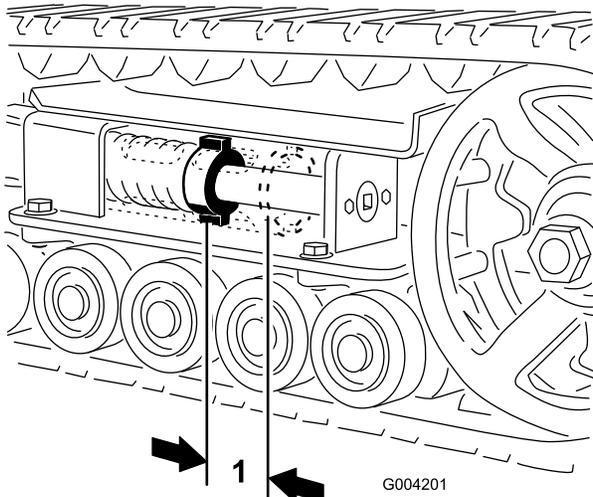

Figure 44
There should be 7 cm (2-3/4 inches) between the tension nut and the back of the tension tube (Figure 44). If not, adjust the track tension using the following procedure:
4. Using a 1/2 inch drive socket wrench, turn the tensioning screw counter-clockwise until the distance between the tension nut and the back of the tension tube (Figure 44) is 7 cm (2-3/4 inches).
11. Turn the tensioning screw counter-clockwise until the distance between the tension nut and the back of the tension tube (Figure 44) is 7 cm (2-3/4 inches).
17. Turn the tensioning screw counter-clockwise until the distance between the tension nut and the back of the tension tube (Figure 44) is 7 cm (2-3/4 inches).